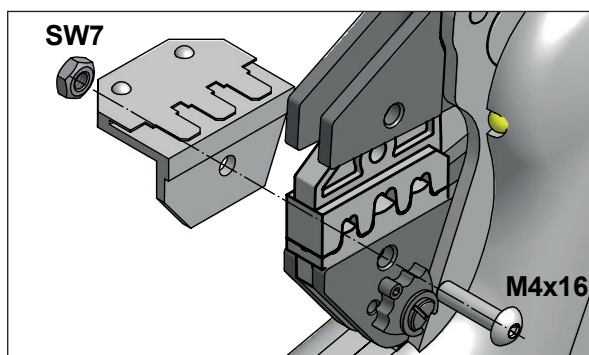

Figure 7
#### 8.1.2.1 Examples: non-insulated open plug connectors, D-sub plugs, etc. (Figure 7)
5. Push the positioning guide onto the M4x16 screw as shown in Figure 7 and secure using the nut (SW 7).